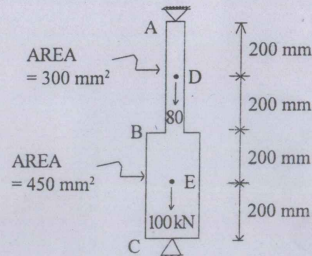

Fig. 6
- (c) A non-prismatic rod is attached between two supports as shown in Fig. 6. It is subjected to axial loads of 80 kN and 100 kN. Determine the support reactions and elongations. Take $E = 200$ GPa. 25